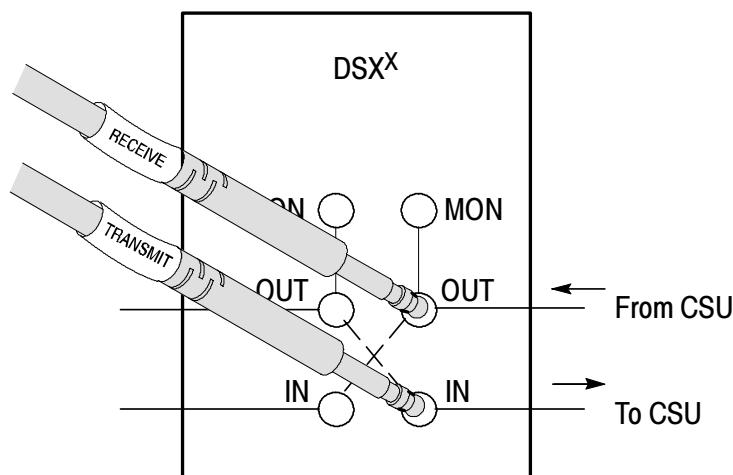

Figure 3-4: Typical connections for loopback mode
3. Connect the **Transmit** Bantam plug, alligator clips, or BNC connector to the **IN** or **OUT** side of the service access, depending on the circuit you want to terminate. See Figure 3-4.